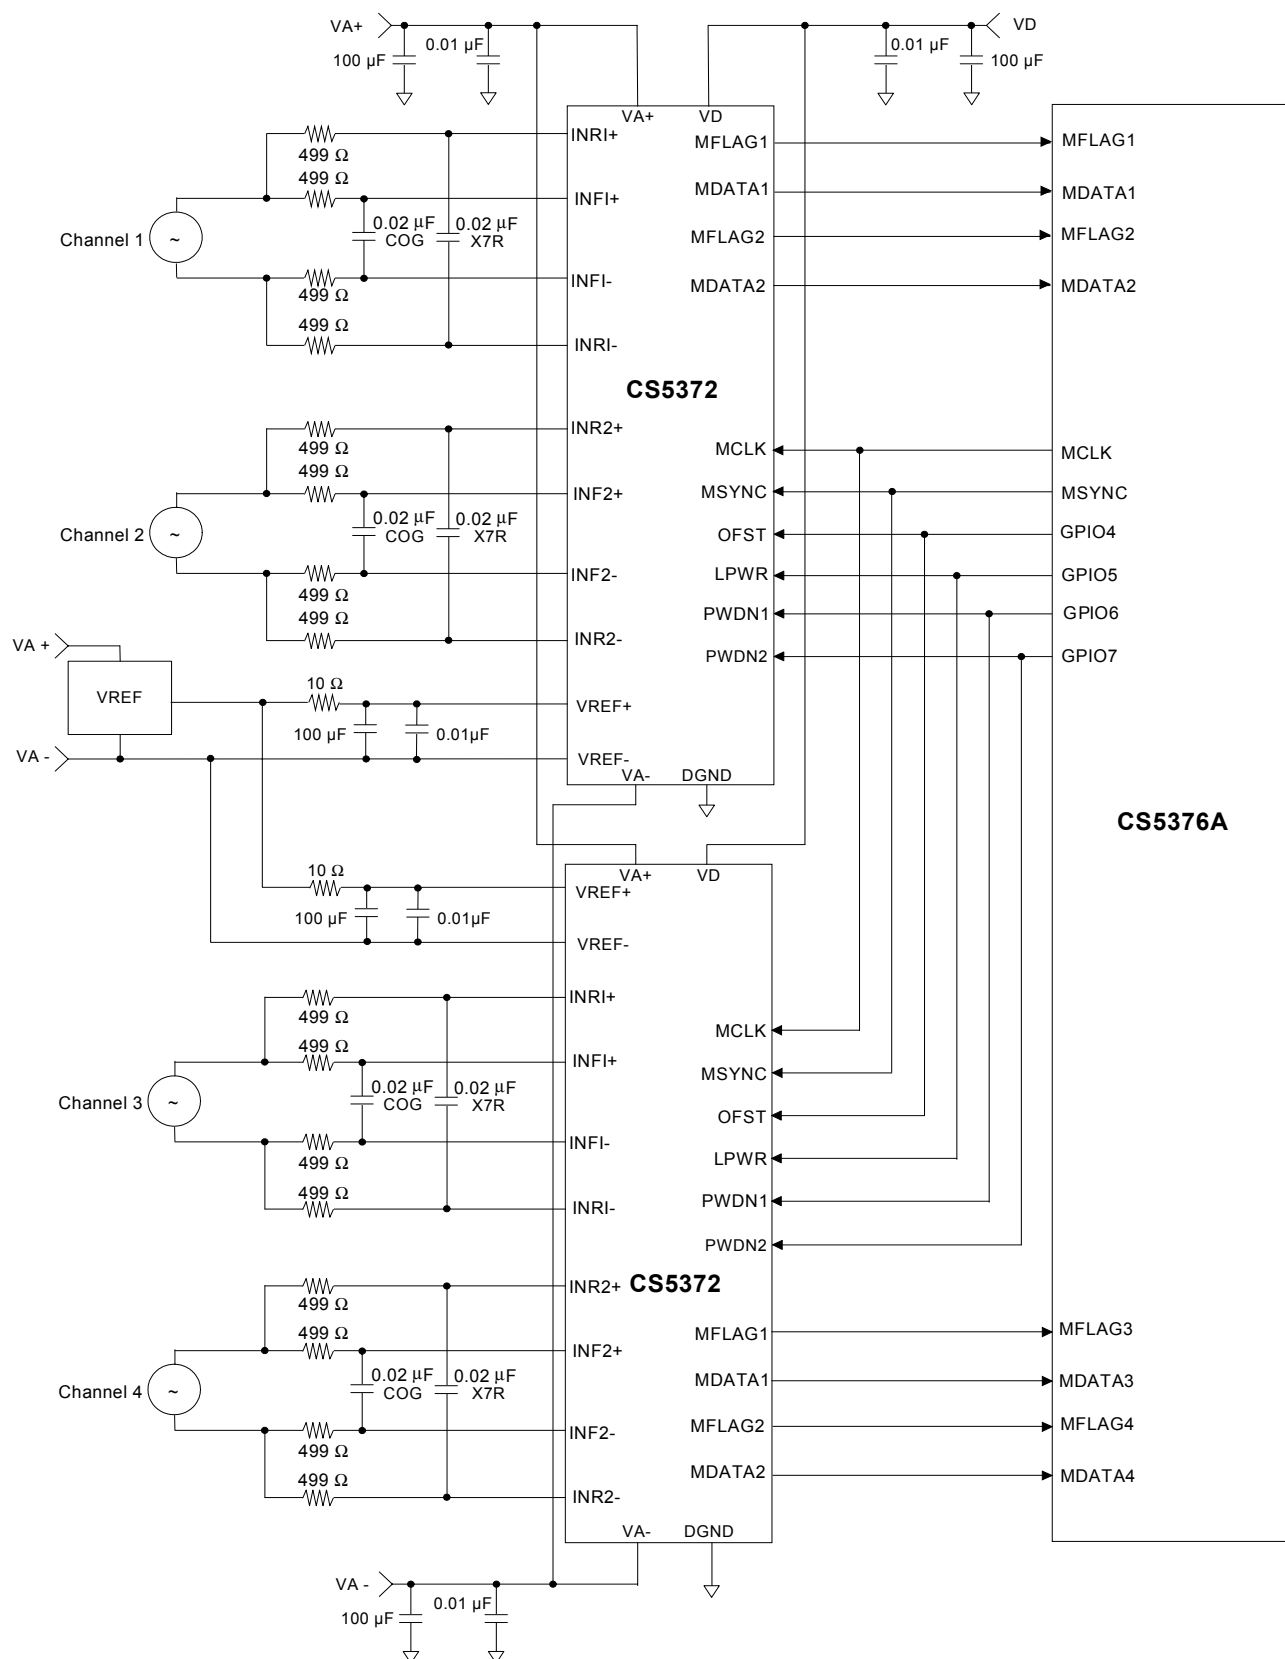

Figure 3. System Connection Diagram
- The input voltage range is for the configuration depicted in Figure 3, the System Connection Diagram, and applies to signal frequencies from DC to the stop-band frequency selected in the digital filter.
The CS5371 and CS5372 are one- and two- channel fourth-order $\Delta\Sigma$ modulators, optimized for extremely high-resolution measurement of signals between DC and 1600 Hz. They are designed to be used with the CS5376A and CS5378 low-power digital filters. Figure 3 on page 8 shows a four-channel system connection diagram for two CS5372 and one CS5376A.
Figure 3 illustrates the CS5372/CS5376A system connections with input anti-alias filter components. Filter components on the rough and fine pins should be identical values for optimum performance, with the capacitor values a minimum of 0.02 μ F. The rough input can use either X7R or C0G capacitors, while the fine input requires C0G type capacitors for optimal linearity. Using X7R capacitors on the fine inputs will degrade signal to distortion performance up to 8 dB.